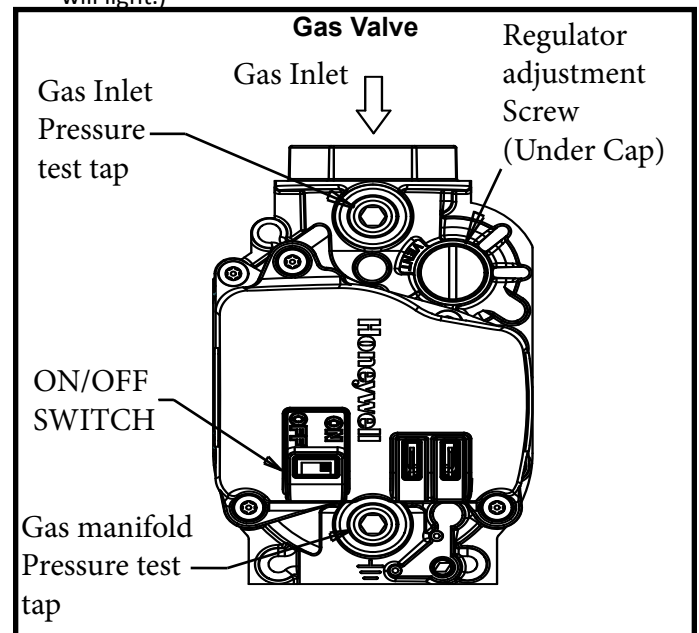

Figure 4
3. Move the gas valve ON/OFF switch to the "ON" position (see Figure 4).
2. Move the ON/OFF switch to the "OFF" position (see Figure 4).